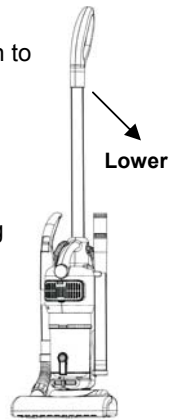

Fig. 7
**NOTE:** When vacuuming deep pile carpets or hard wood floors, lower the angle of the handle (see illustration at right) for easier maneuverability. (Fig. 7)